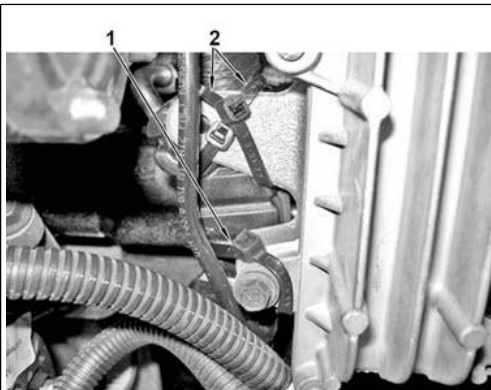

**Figure 20 - Engine Harness Tie Straps**
24. Use one tie strap to anchor engine harness at lower forward bolt on ECM bracket and two crossed tie straps at ECM bracket cast-in ear (Figure 20, Item 1 and 2).